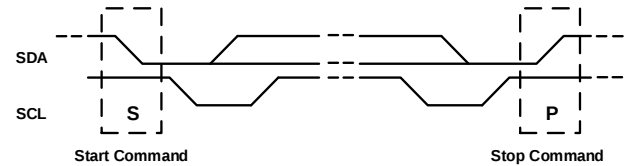

Figure 6: Start and Stop Command
The start and stop commands are signaled by the master device, which signifies the beginning and the end of the PMBus interface transfer. The start (S) command is defined as the SDA signal transitioning from high to low while the SCL line is high. The stop (P) command is defined as the SDA signal transitioning from low to high while the SCL is high (see Figure 6).